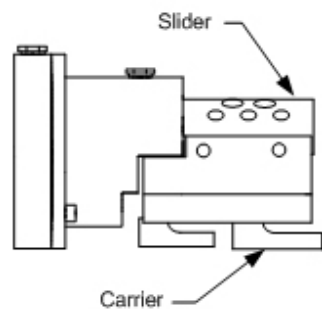

Fig. 8.14. M2CP Valve Components
**8.3.11 M2CP valve (see Figure 8.14)**